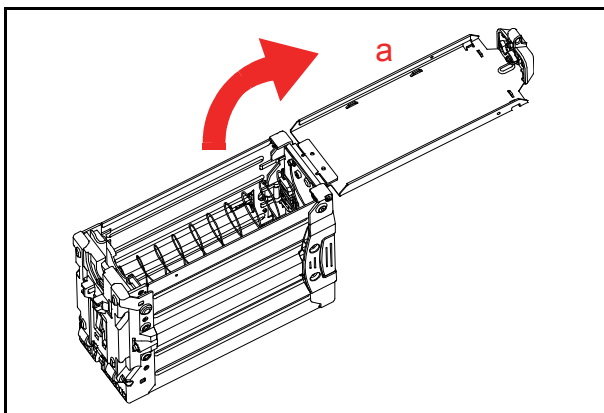

Figure 19 Retrieving Banknotes 3
3. Open the Cash Box Door (Figure 19 a) and retrieve the Banknotes.